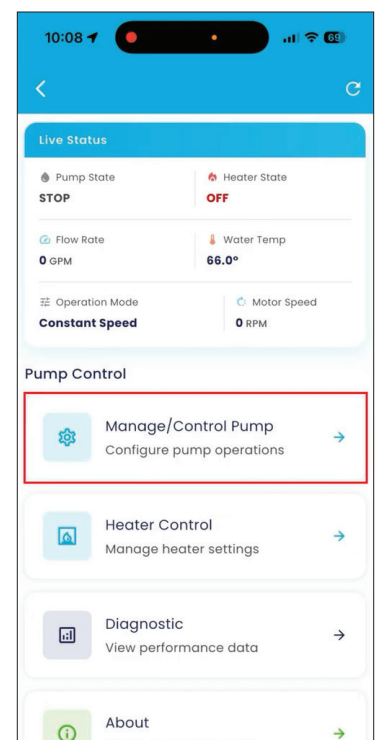

Fig.3.3
- From the main Live Status screen, tap '**Manage/Control Pump**' as shown in Fig.3.3.